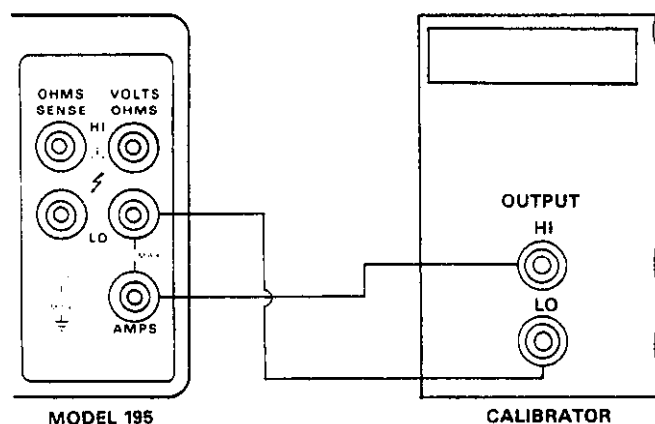

Figure 5-4. Verification Connections for Current
2. Connect the AC calibrator to the instrument as shown in Figure 5-4. Set the calibrator frequency to 1kHz and see that the Model 195 INPUTS switch is in the front panel position. Do not use ZERO in the AC mode.